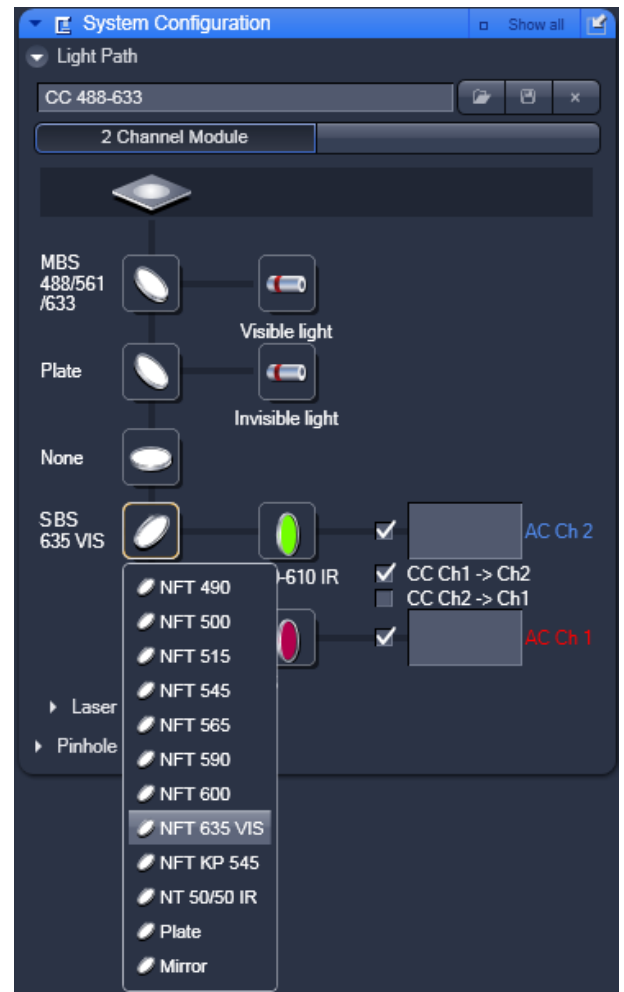

Fig. 9-23 System Configuration tab - Light Path panel with SBS filter list
- Click on the SBS icon to open a list of dichroics (Fig. 9-23).
- Click on the EF2 or EF1 (Fig. 9-23) icon to open a list of available emission filters. All filters can be viewed by using the scroll tab.